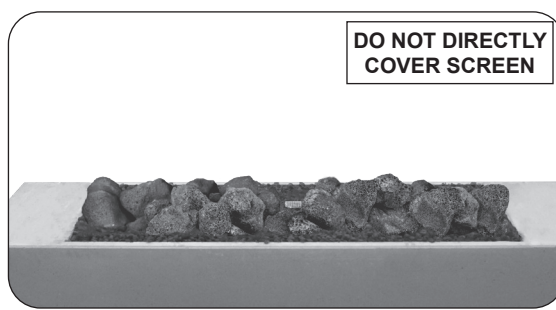

Fig. 32-2 Lava stones option
2. Pour the lava stones evenly into the burner area (see Fig. 32-2). **Store any excess media in a safe location.**